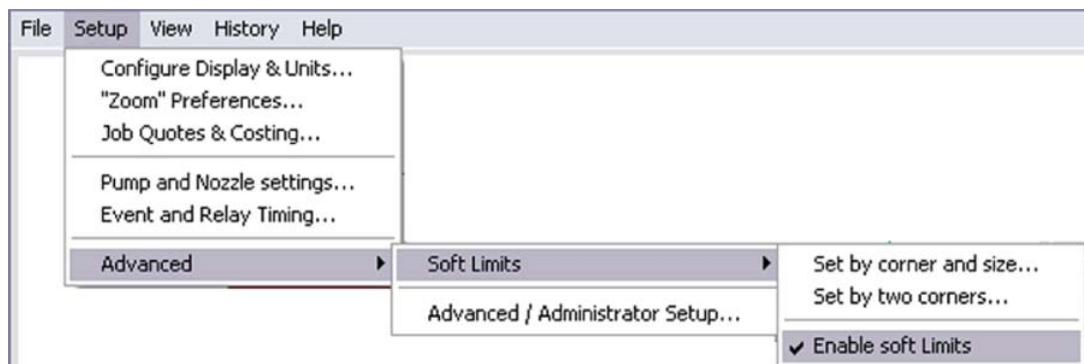

Figure 3-6
20. Verify soft limits are enabled (**Setup/Advanced/Soft Limits** - see Figure 3-6):